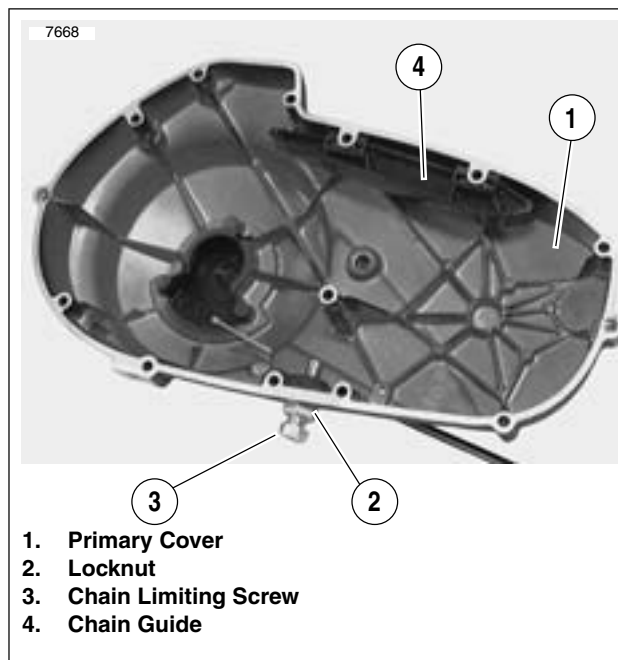

Figure 6-2. Removing Primary Chain Adjuster
1. See Figure 6-2. Remove primary cover.